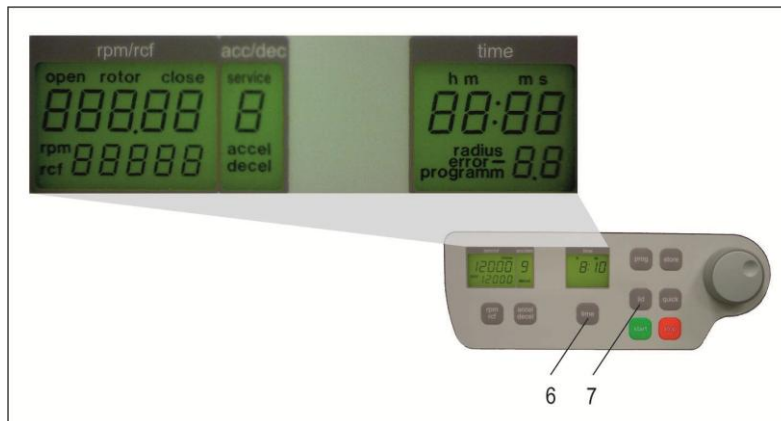

Figure 5
If the centrifuge is still turned off, press the keys, "time" (6) and "lid" (7) simultaneously, turning on the main switch of the centrifuge. Now release both keys. As a result, a display test is administered for approx. 5 seconds. All possible indications will appear at the same time (see Figure 5 **Fehler! Verweisquelle konnte nicht gefunden werden.**).